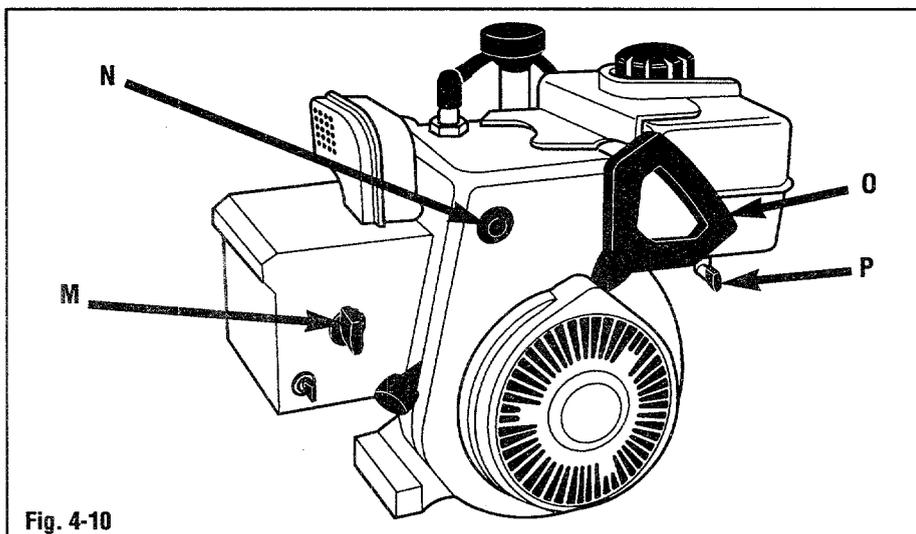

Fig. 4-10
2. Rotate the ignition keyswitch (K, Fig. 4-10) into the "STOP" position.
4. Rotate the ignition keyswitch (K, Fig. 4-10) into the "STOP" position. Remove the ignition key.
- b. Move the throttle lever (L, Fig. 4-10) into the "←" position.
- c. move the choke knob "N" (M, Fig. 4-10) into the full choked position.
- d. Rotate the fuel shut-off valve (P, Fig. 4-10) to the "OFF" position, if so equipped.